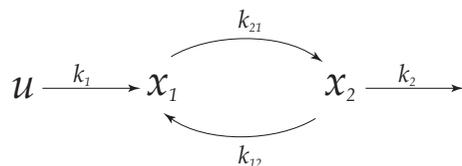

Figure 8.17a
- 8.17 The model in Figure 8.17a describes the interaction between two proteins with concentrations  $x_1$  and  $x_2$ , where the kinetic parameters  $k_1, k_{21}, k_{12}$  and  $k_2$  determine the reaction rate.